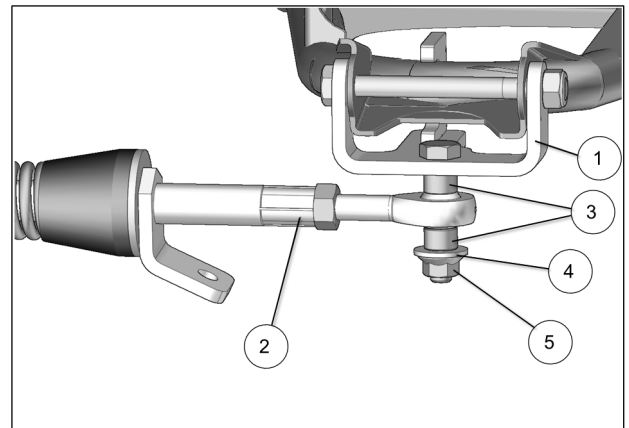

Fig. 12
11. Attach stabilizing rod (2) to anchor bracket (1), using the spacer bushings (3), flat washer (4) and nut (5). Torque to 70 N•m [52 lb•ft]. See Fig. 12